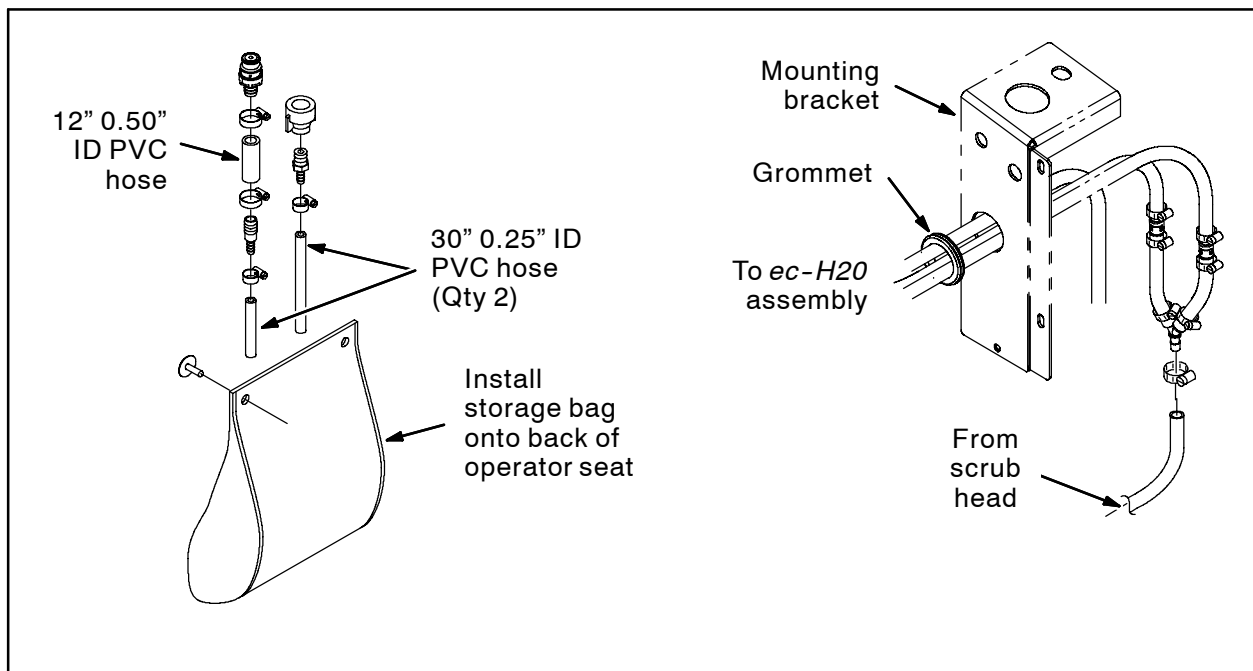

FIG. 18
60. Slide the grommet onto the hoses /cables on the *ec-H20* assembly. Refer to Fig. 18.
64. Install the grommet into the mounting bracket. Refer to Fig. 18.
68. Install the storage bag onto the back of the operator seat. Refer to Fig. 18.
69. Assemble the *ec-H20* flush hose assemblies. Refer to Fig. 18.